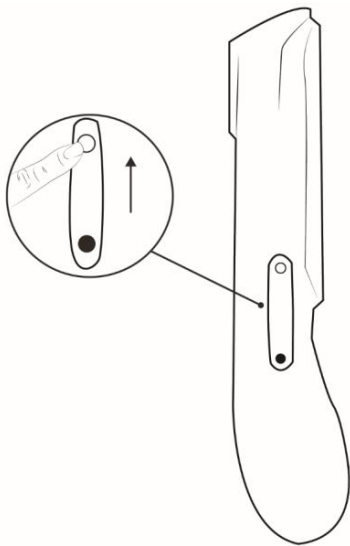

Figure 5:
- 2. Toggle the Rocker Switch to its “up” position (Figure 5).